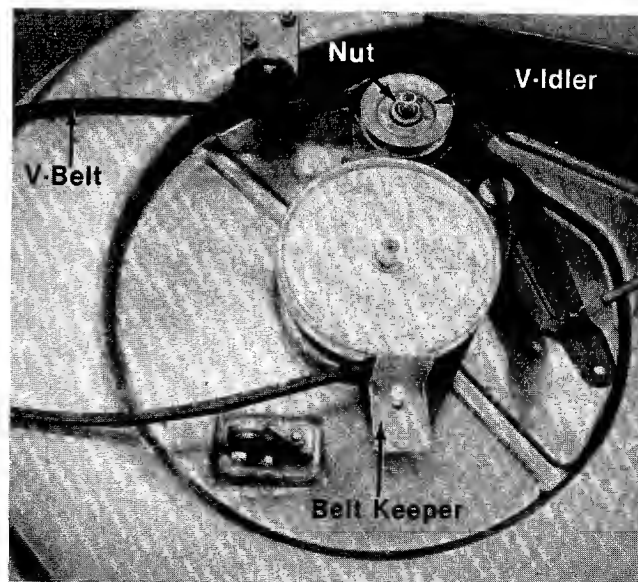

FIGURE 40.
3. Remove the belt keeper on the cutting deck. See figure 40.
4. Remove the nut from the idler on the cutting deck and remove the idler. See figure 40.